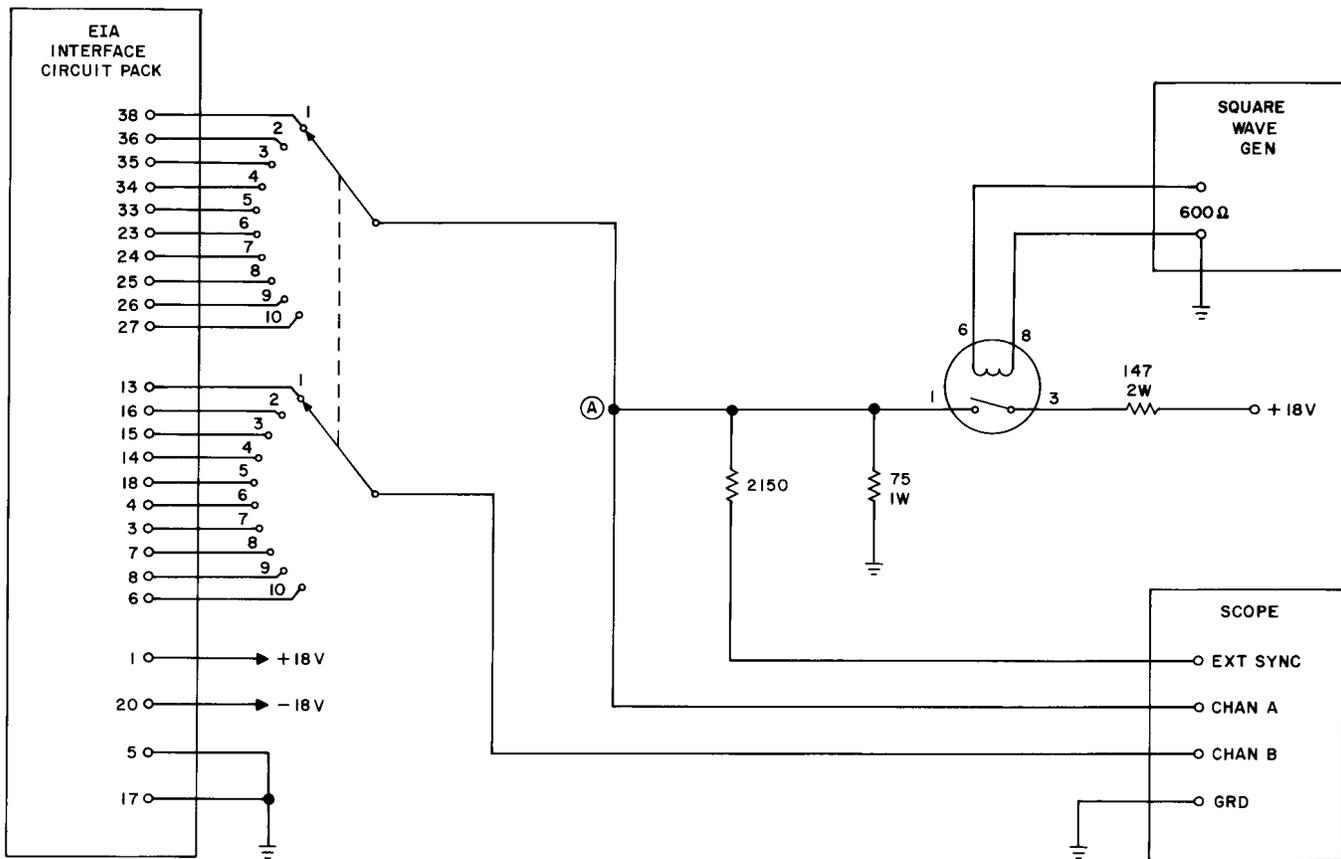

Fig. 48A — EIA Interface Test Circuit
8.09A Pulse Tests: With the circuit pack connected to the suggested test circuit shown in Fig. 48A, connect ground to terminals 5 and 17, +18.0 (± 0.5) Vdc to terminal 1, and -18.0 (± 0.5) Vdc to terminal 20. Temporarily short terminal 1 to terminal 3 of the mercury relay. The voltage between point A and ground should measure +6.0 (± 0.3) Vdc with the voltmeter. Remove the short on the mercury relay and set the frequency of the square-wave generator between 40 and 50 Hz. Set the EXT SYNC TRIGGER selector to (+) positive.